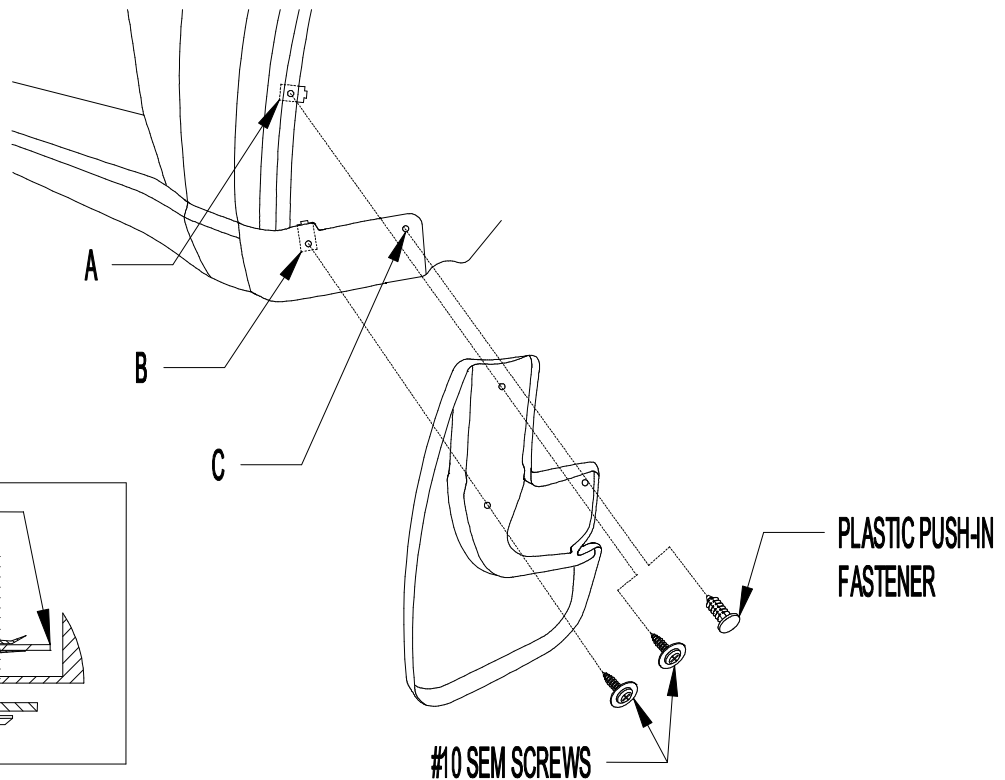

FIGURE 1
3. Install a U-clip over sheet metal behind fender liner at locations A and B (Figures 1 and 2).
4. Attach mud guard to front fender with #10 SEM screw, at locations A and B, thru mud guard, fender cladding, and into U-clip. Check fit and parallel and adjust accordingly before tightening (Figures 1 and 2).